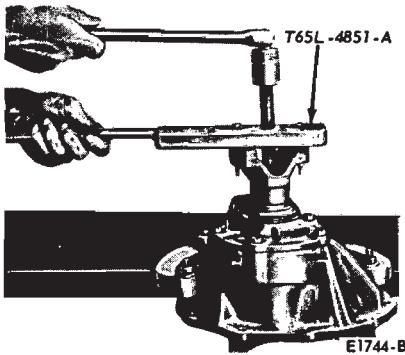

FIG. 24—Removing U-Joint Flange
2. Remove the U-joint flange from the pinion shaft (Fig. 24).